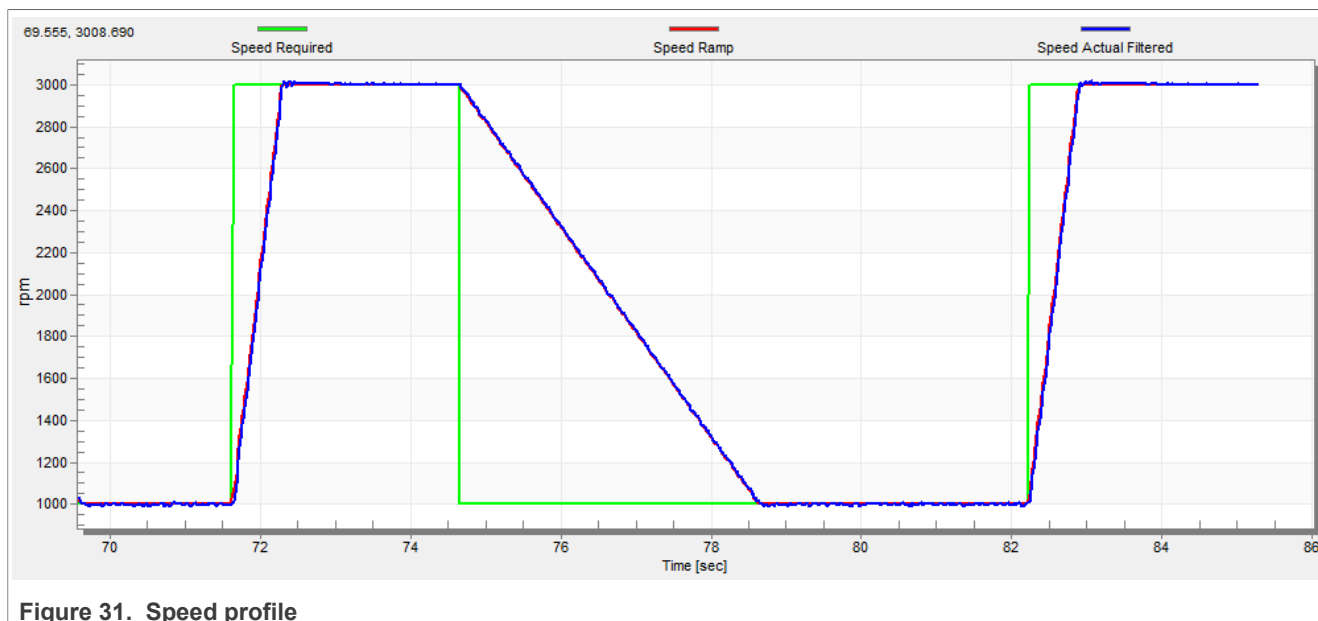

**Figure 30. Fast step response of the Id current controller**
- The loop bandwidth is high (700 Hz) and the response time of the Id current is very fast, but with oscillations and overshoot (Figure 30).